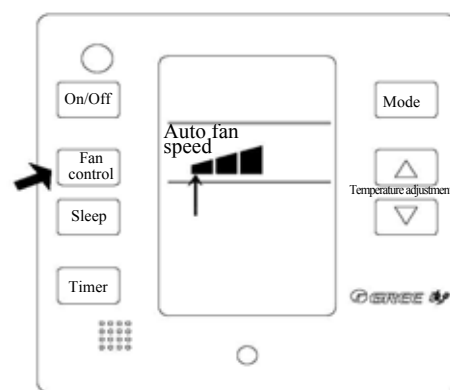

Fig 2
2) FAN control (Fig.2) (content shown in Fig.2 is the relevant display area)